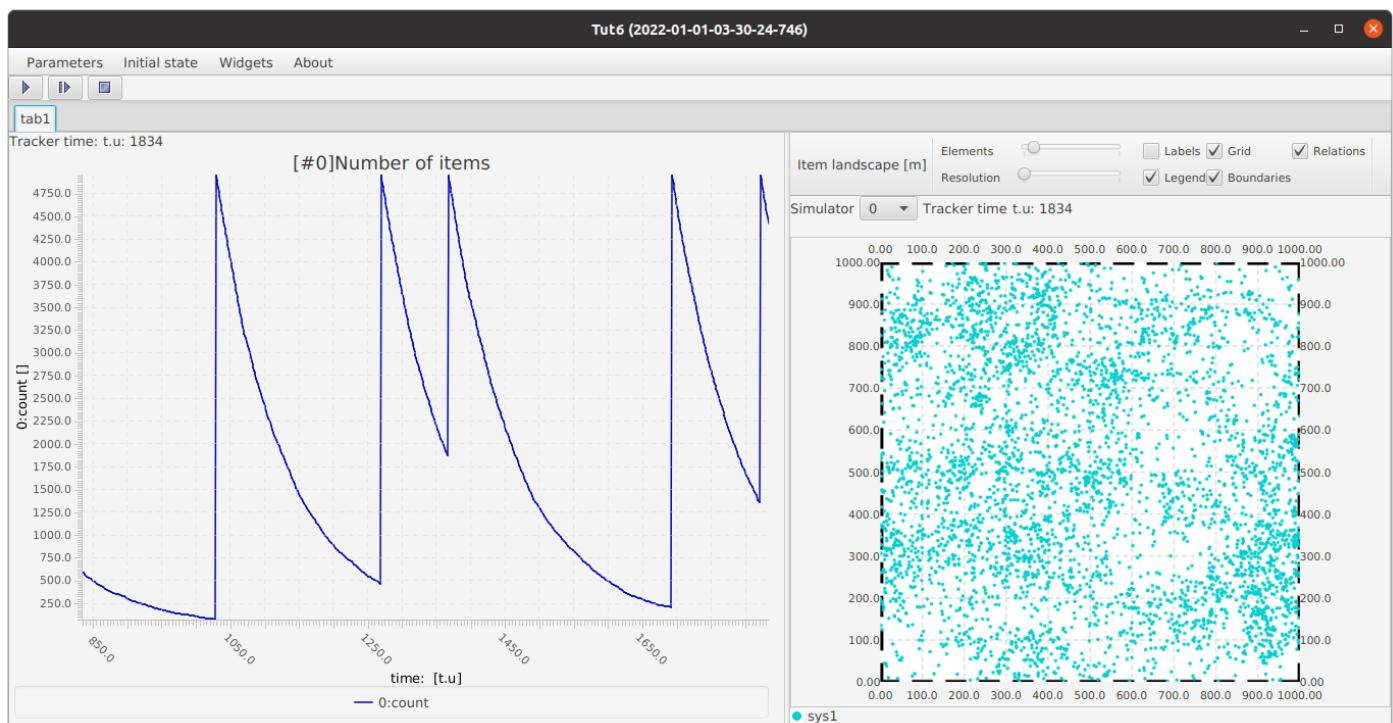

Figure 61. Running Tutorial 6.
4. Deploy the simulation [Alt+D] (Figure 61).